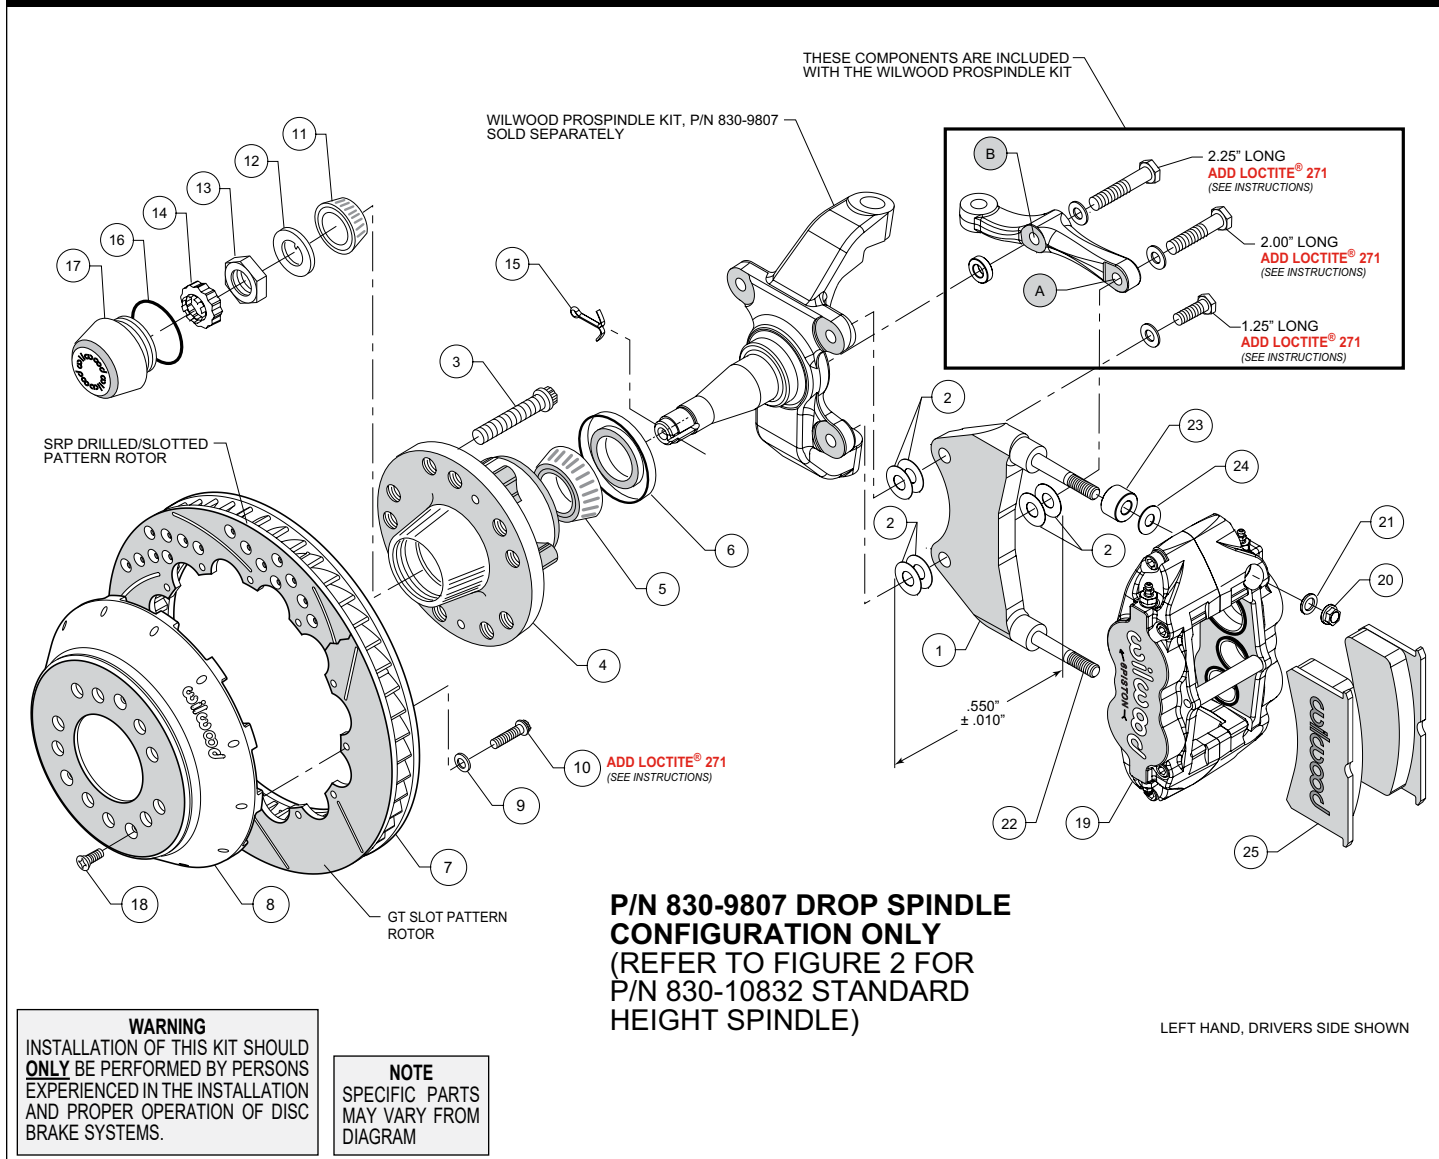
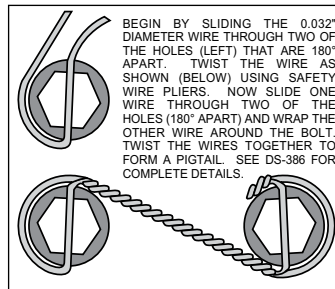

Figure 1. Installation Configuration For Drop Spindle, P/N 830-9807
Figure 4. Safety Wire Diagram
**Assembly Instructions** (numbers in parenthesis refer to the parts list and Figures 1 or 2 on the preceding pages):
- NOTE:** Each Wilwood ProSpindle kit includes bolts, washers, and a spacer to mount the steering arm and caliper bracket. The various bolts are identified by length in the following instructions and in Figures 1 and 2.
**For 2" Drop ProSpindle (P/N 830-9807):** The caliper bracket assembly (1) should initially be installed with clean, dry threads on the mounting bolts.
- Orient the bracket as shown in Figure 1 and Photo 1. Install at top spindle hole using 1.25" long bolt and .06" thick washer (from ProSpindle kit), and two .016" thick shims (2) between the bracket and spindle, Figure 1.
- Orient the steering arm, and identify the hole marked 'A', as shown in Figure 1. Install at bottom spindle hole using 2.00" long bolt and .06" thick washer (from ProSpindle kit), two .016" thick shims (2) between the bracket and steering arm, and another two .016" thick shims (2) between the bracket and spindle, Figure 1. The bracket is located between the steering arm and spindle. **NOTE:** The bracket and shim washers must add up to a total thickness of .550" ± .010", Figure 1.
- Finish attaching the steering arm through the hole marked 'B', as shown in Figure 1. Install using 2.25" long bolt, .06" thick washer, and .25" thick spacer (all from ProSpindle kit), Figure 1.
- Pack the large inner bearing cone (5) with high temperature disc brake bearing grease (available from your local auto parts store) and install into the backside of the hub (4), Photo 4.
- Install the grease seal (6) by pressing into the backside of the hub (4), flush with the end of the hub, Photo 4.
- Pack the small outer bearing cone (11) with high temperature disc brake bearing grease and install into front of hub (4). Slide the hub assembly onto the spindle. Secure using spindle washer (12) and adjusting nut (13), Photo 5. Bearing adjustment: Tighten the nut while turning the hub. When there is a slight bind on the bearings, they are seated correctly. Back the nut off about 1/6 to 1/4 of a turn, or sufficiently to allow .001" to .007" end play. **WARNING:** Failure to back off adjusting nut could cause bearing to run hot and be damaged, which could cause the wheel to lock or come off. Install spindle nut retainer (14) and cotter pin (15).
- Screw dust cap (17) into hub (4). Friction created by the o-ring (16) on the dust cap keeps it from unscrewing.
- Orient the rotor (7) and the hat (8) as shown in Figures 1 or 2, and Photo 6. Attach rotor to hat using bolts (10) and washers (9). Apply red *Loctite*® 271 to the bolt threads and torque to 155 **in-lb** using a criss-cross pattern. For an added measure of security, the bolts may be safety wired using standard 0.032 inch diameter stainless steel safety wire as shown in Figure 4. Refer to Wilwood's data sheet DS-386 (available at [www.wilwood.com/Pdf/DataSheets/ds386.pdf](http://www.wilwood.com/Pdf/DataSheets/ds386.pdf)) for complete safety wire installation instructions.
- Slide the hat/rotor assembly (8 and 7) onto the hub (4) taking care to align the small countersunk holes in the hat with the small threaded holes in the hub. **NOTE:** The hat must fit flush against the hub face or excessive rotor run out may result. Install three flat head screws (18) through the small holes in the hat (8), and torque to 85 **in-lb**.
- NOTE:** This kit contains distinct right and left hand calipers that must be mounted in a specific direction, as described below. Initially place one .035" thick shim (24), and spacer (23) on each stud (22) as shown in Figure 1 or 2, and Photo 7. Mount the caliper (19) onto the bracket (1) using lock nuts (20) and washers (21), Figure 1 or 2. Ensure that the caliper is mounted so that the largest pistons are at the rotor exit end of the caliper, in relation to the direction of rotor rotation. Temporarily tighten the lock nuts and view the rotor through the top opening of the caliper. The rotor should be centered in the caliper, Photo 8. If not, proceed as follows:
- For the lower bracket mount bolt, if a shim was added between the bracket and spindle, then a shim must be removed between the steering arm and bracket, such that the total thickness of bracket and shims remain equal to  $.550 \pm .010$ ", Figure 1.